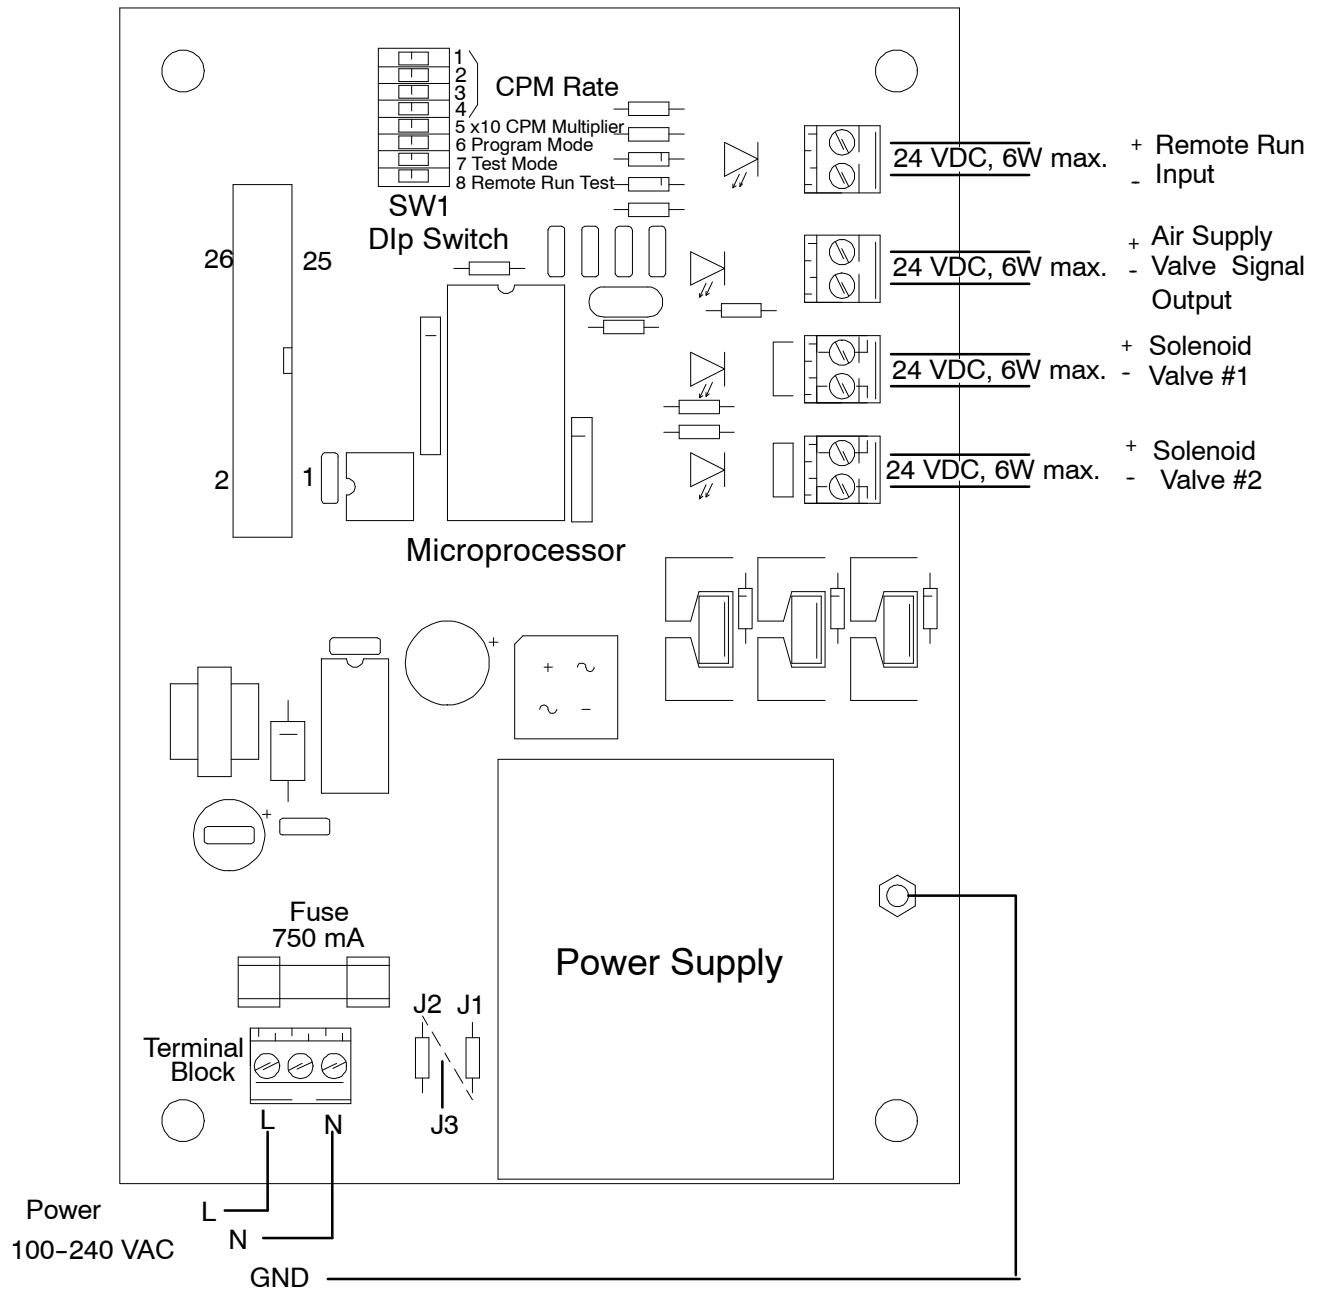

Fig. 2
The CycleFlo requires 100–240 VAC, 50/60 Hz to operate. The power input is fuse-protected with a 750 mA fuse (see Fig. 2).
Connect power to the unit as described. Always have a qualified electrician perform wiring connections. Connect Line (L) and Neutral (N) wires to the terminal block as shown in Fig. 2. The Ground wire (GND) must be attached to the #10–32 ground stud. A crimp-on ground wire lug comes attached to the ground stud. Remove the lug and attach to the ground wire. Replace the lug assembly back onto the stud and fasten down with the kepsnut provided.
Connect Line (L), Neutral (N), and Ground (GND) as shown in Fig. 2. Ground wire must be attached to the ground stud and fastened down with the nut provided.